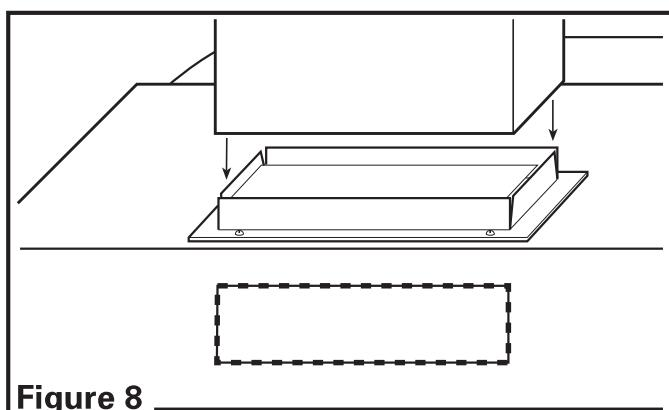

Figure 8
- Connect the ducting to the hood's duct collar and damper. Secure in place using tape to seal all joints (**Figure 8**).